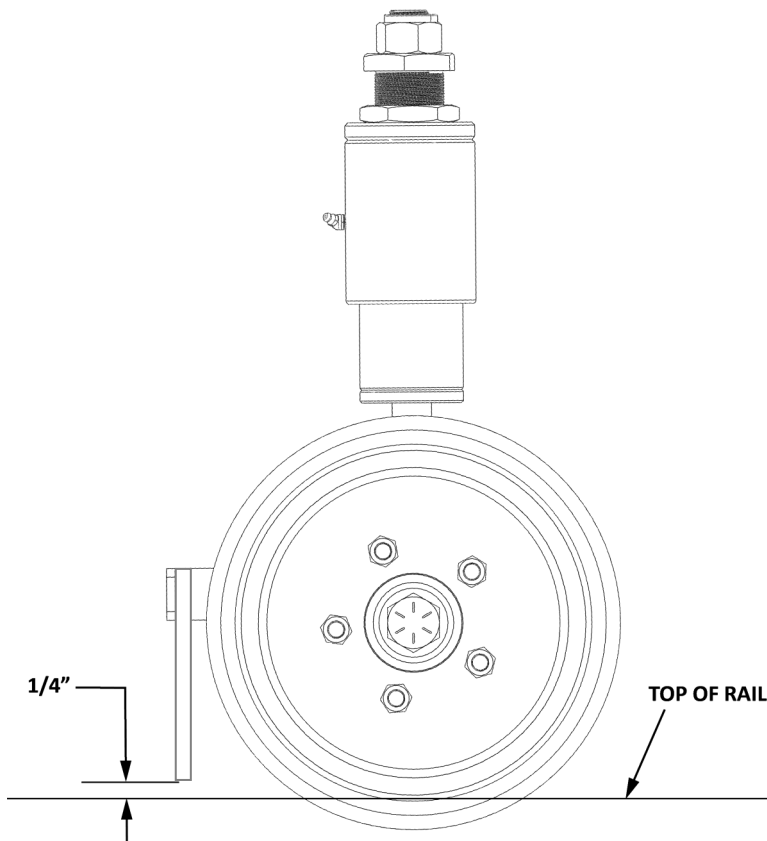

Figure 12
10. ADJUSTING RAIL SWEEPS - See Figure 12